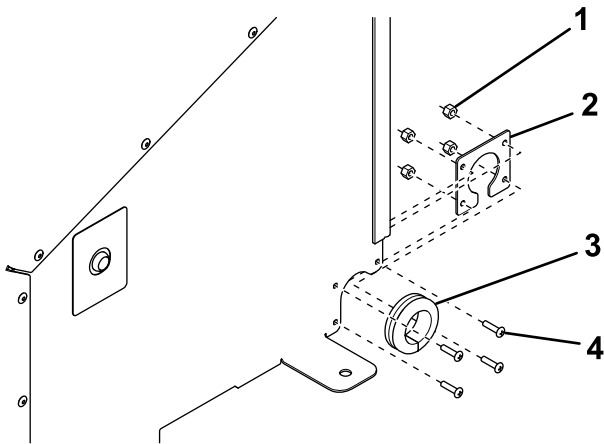

**Figure 3**
9. Remove and discard the grommet cover plate on the right side of the rear cover (Figure 3).